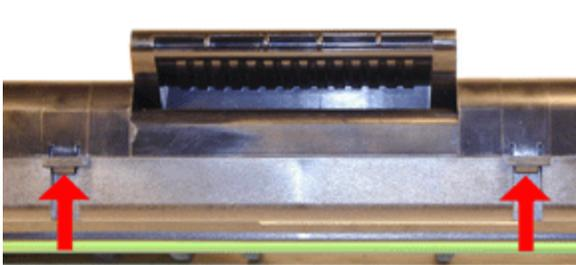

FIGURE 26
25. Carefully snap the cover on making sure all the tabs lock in place. See Figure 26